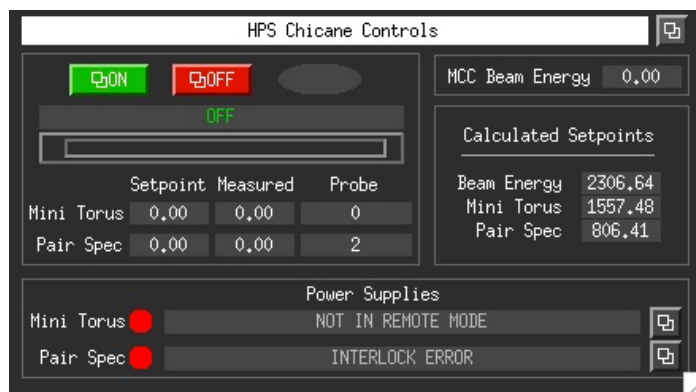

Figure 12: The mini torus power supply control GUI.
**A detail instructions how to setup the chicane, how to use the GUI, see Figure12 follow separate instructions provided on the run wiki documentation page.**